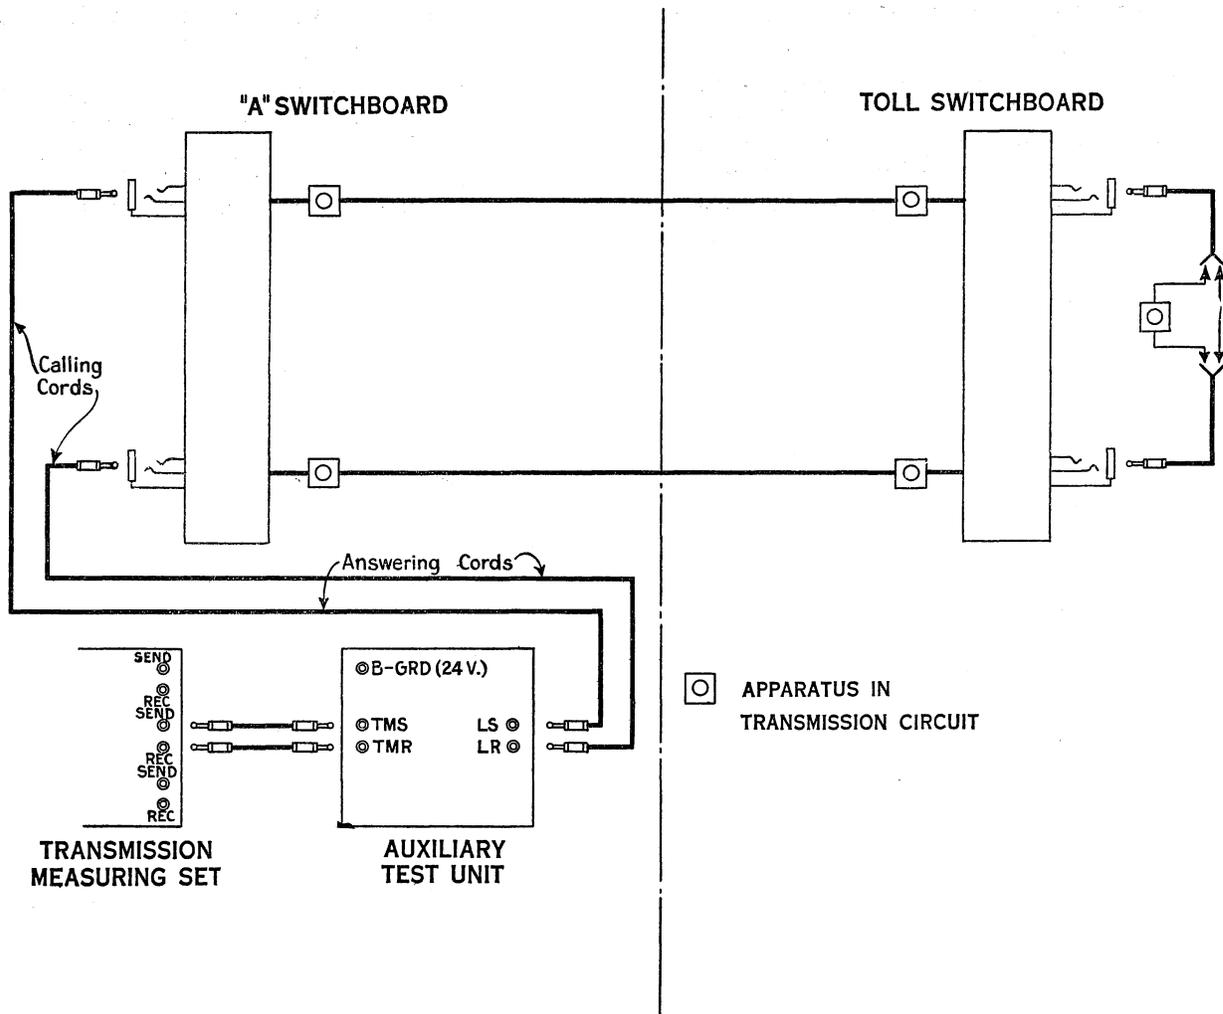

Figure 4
- 6.03 Figure 4 shows schematically the connections for the test.